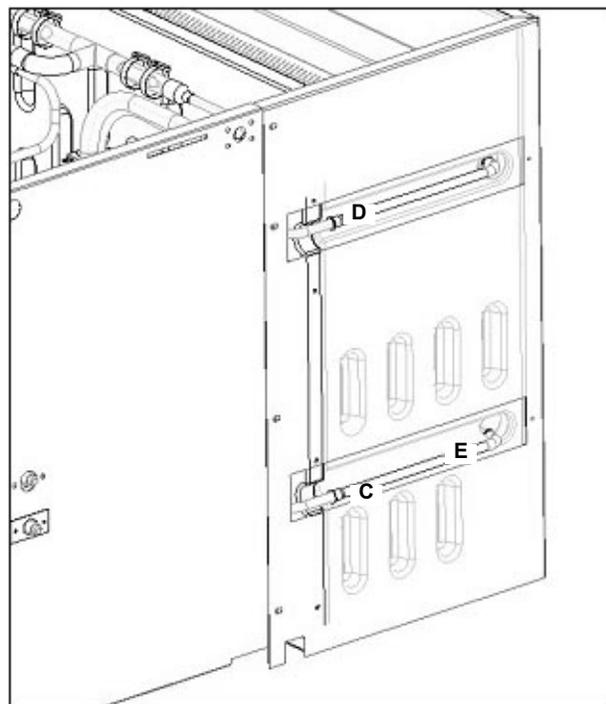

Figure 40.
39. Using clamps or other means, secure the insulation away from the joints, and braze the Heat Exchange Suction Line to the evaporator inlet (C) and outlet (D) (Figure 40).